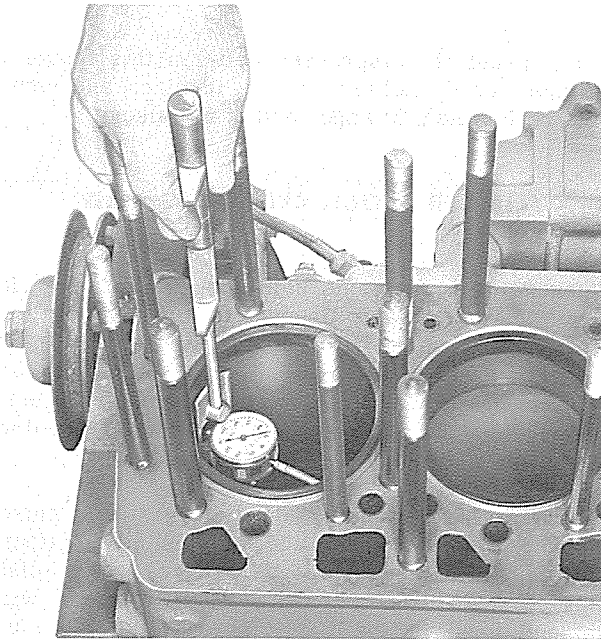

Fig. 1 — Checking Cylinder Sleeve for Roundness (T-20224)
1. Check cylinder sleeves for roundness by means of a gauge similar to the one shown in Fig. 1. Using an inside micrometer, measure cylinder sleeve for taper and wear. The specified inside diameter of a cylinder sleeve is 4.4370" - 4.4385".